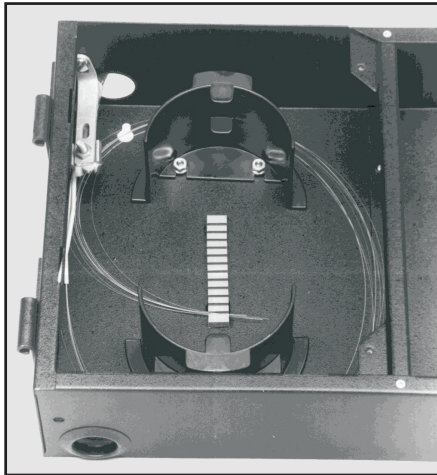

FIGURE 2 - ROUTE FIBER
- 6.07 Loosely route the bare fibers twice around the splicing compartment and into the bottom groove of the Splice Block. (as shown in Figure 2) Cut off excess fiber length just beyond the end of Splice Block.